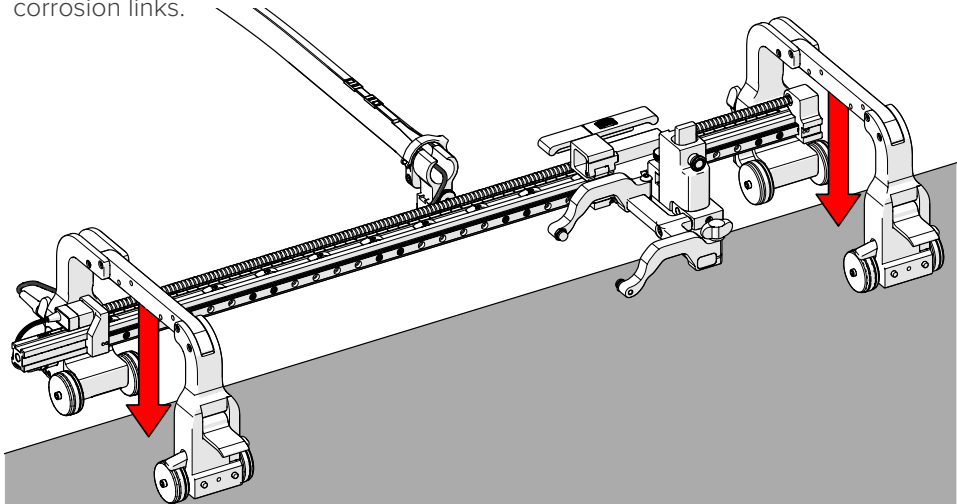

Fig. 93 - Place scanner on scan surface
5. Place the **STIX** on the scanning surface (Fig. 93).